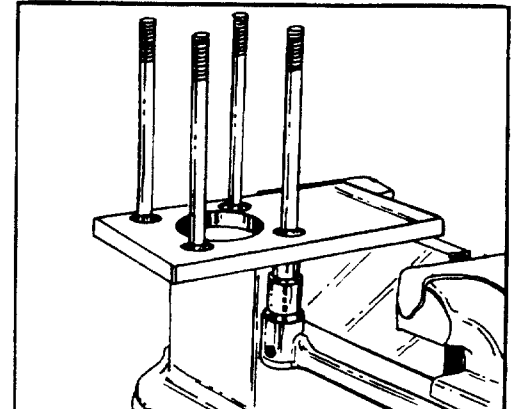

FIGURE 42.
51. Remove the nuts holding the four bolts (40) to the fixtures and remove the bolts. Bolts with the square shoulder or the threads damaged such that the nuts cannot be properly torqued must be replaced. See figure 42.